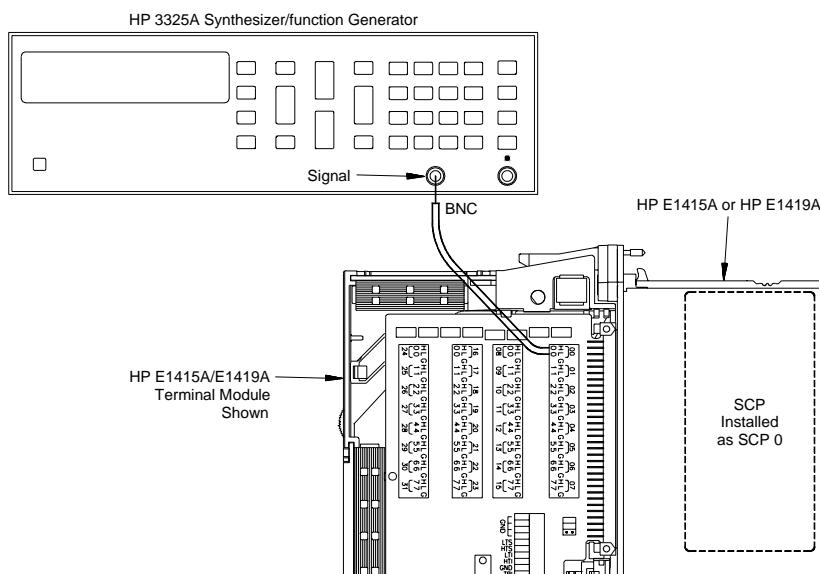

Figure 2-31. Frequency Counter Connections
- [a] Connect wiring from terminal block to frequency generator (see Figure 2-31)